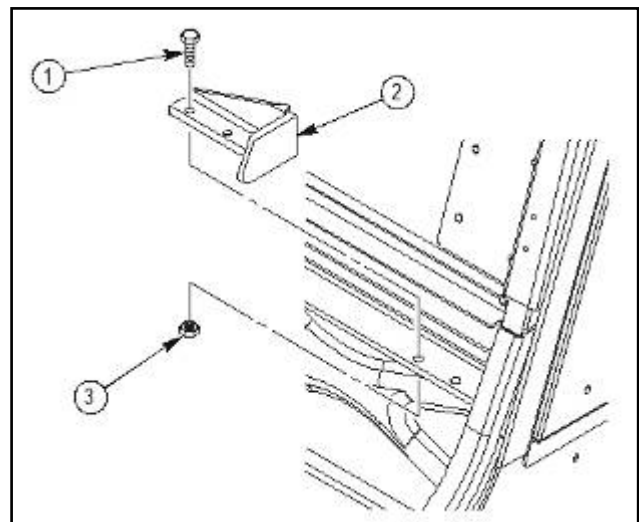

Figure 2b.
14. Remove two locknuts (3), capscrews (1), and lower rear ramp block (2) as shown in figure 2b. Discard all parts. Repeat procedure for opposite side of vehicle.